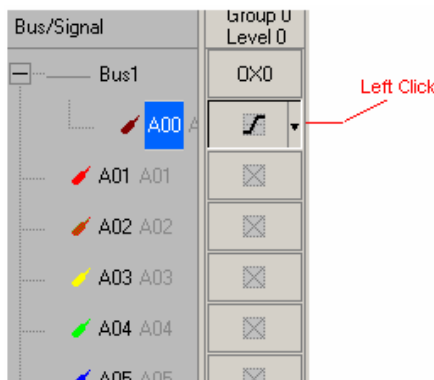

Fig 4-25 – Left Click
1. Left Click  to set the signal trigger edge as shown in Fig 4-25.